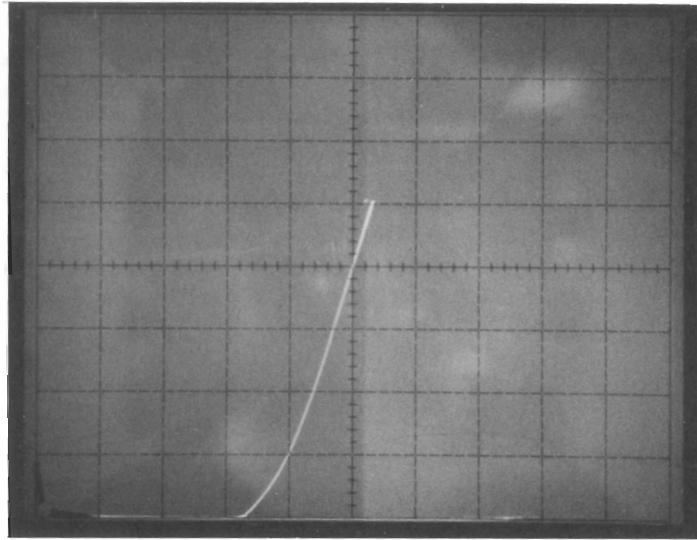

FIGURE 3-5a Waveform positioned horizontally to put the 4-ampere level at a convenient horizontal division line. Horizontal sensitivity, 1V/div.
**Procedure:** To measure the actual voltage drop across the SCR at a given current level, position the trace horizontally until the desired vertical current level occurs at a convenient horizontal division line (Fig 3.5a).
FIGURE 3-5b SCR shorted anode-to-cathode; horizontal shift at the 4-ampere level was  $-0.85$  divisions. Actual drop across SCR in Fig. 3-5a was  $0.85 \times 1V = 0.85V$  at 4 A.